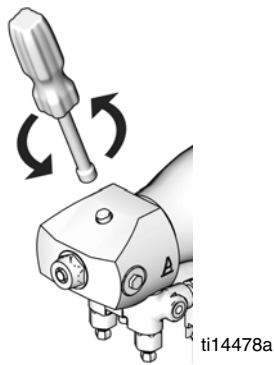

FIG. 15: Open the Bleed Port
1. With bleed port facing away from you and with air supply connected, use a 5/16 in. nut driver (supplied) to slowly open the bleed valve 1/4 to 1/2 turn until air/fluid begins to slowly exit the valve. See FIG. 15.